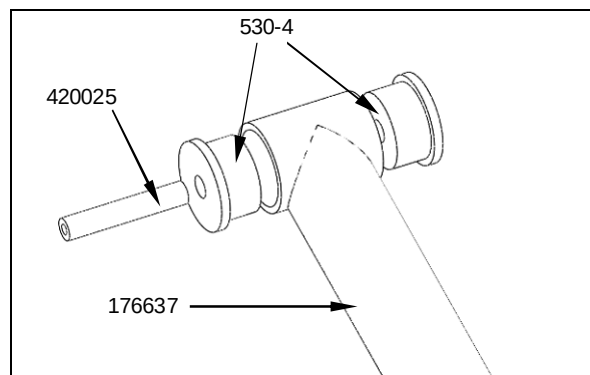

Figure 1
- 2) ☐ Press the lubricated bushings into one end of a new Rancho suspension link 176637 as shown in Figure 1.